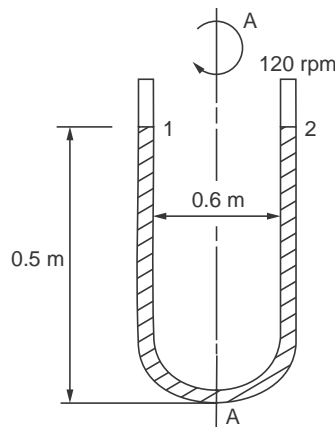

Figure E. 2.34
- E.2.34.** The U-tube shown in Fig. E.2.34 is rotated at 120 rpm about the vertical axis along A-A. Determine the pressure at 1 and 2.